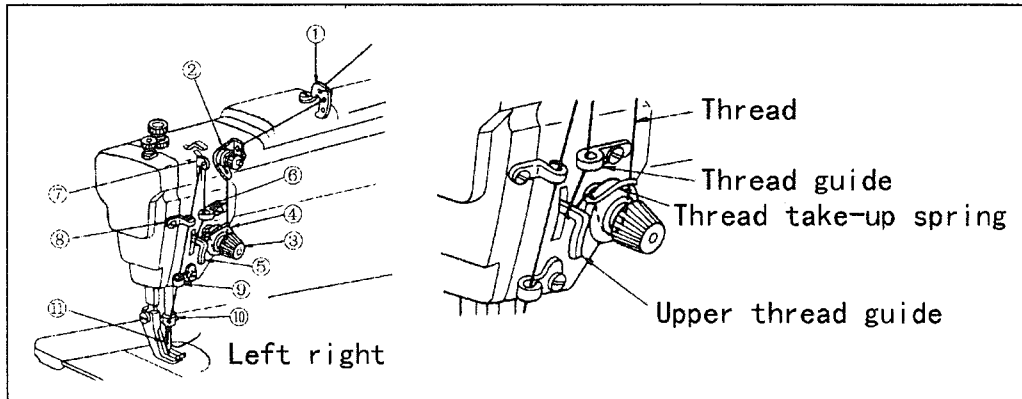

Fig.19
19、 How to route the upper thread (Fig.19):